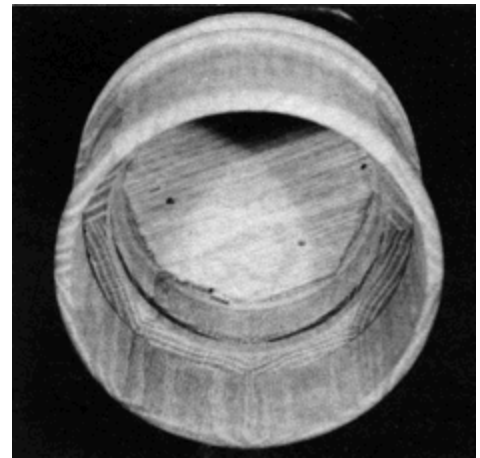

Figure 15
45. Use one of the rings cut from the blank as a bezel ring as shown (see **Figure 15**).